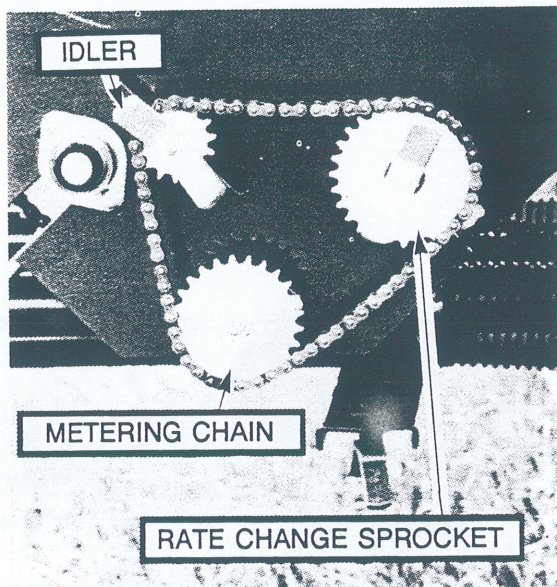

Figure 26 - Drive Transmission
- Loosen metering chain on posi-drive transmission, by loosening the idler. (See Figure 26 & 27).
- Remove the metering chain from the transmission that is **not** being checked. (See Fig. 26).
- Check that the desired rate change sprocket is installed in the transmission. (See rate charts and Fig. 26 & 27).